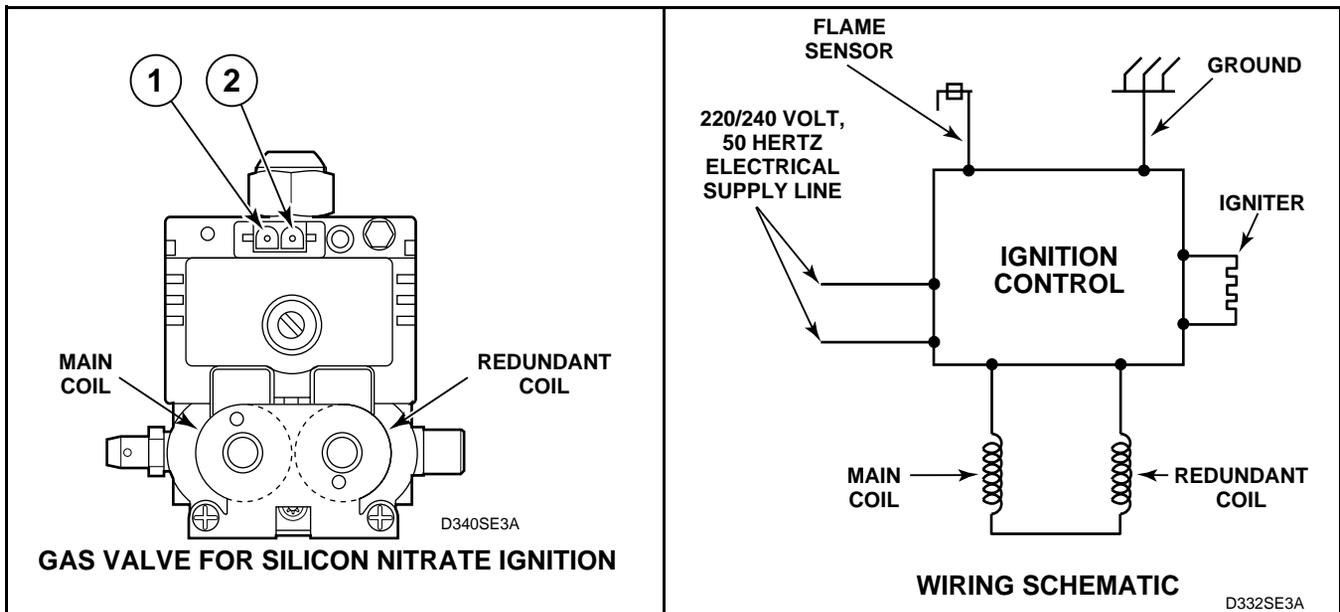

Figure 39
56. BURNER SYSTEM OPERATION – SILICON NITRATE IGNITION (Figure 39)
- d. Remove valve wire harness disconnect block from the gas valve. See Figure 39.
- f. Set test meter to read AC voltage and apply meter probes into terminals on the dryer harness plug that would correspond to terminals 1 and 2 on the coil. See Figure 39. Meter should register line voltage in all Fabric settings, except FLUFF which should read “zero” VAC.